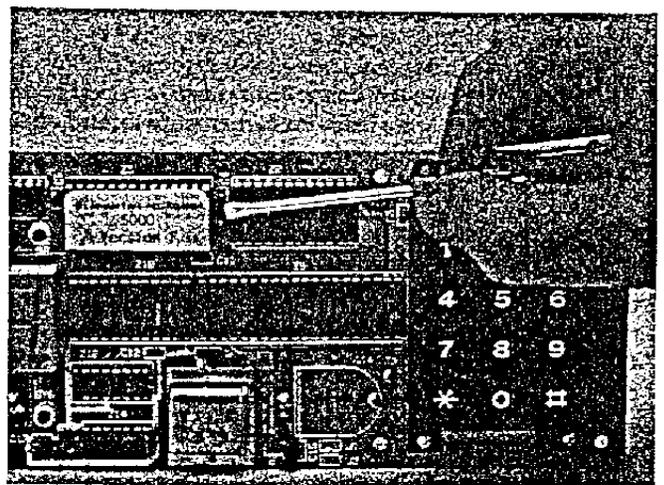

Figure 3
7. Turn the printed circuit board over to locate the EPROM. (See Figure 3.)
The replacement EPROM should be installed with the small notch (on the end of the EPROM) toward the keypad. (See Figure 3.)